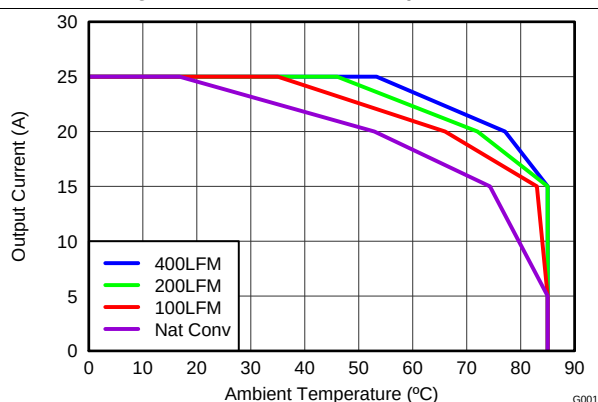
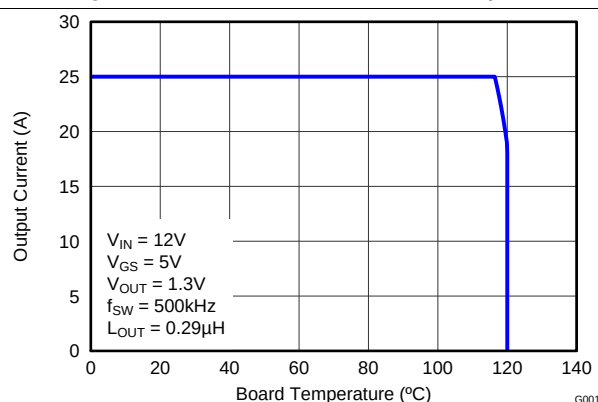

Figure 3. Safe Operating Area – PCB Horizontal Mount
Figure 4. Typical Safe Operating Area
$T_J = 125^{\circ}\text{C}$, unless stated otherwise. The Typical Power Block System Characteristic curves Figure 3 and Figure 4 are based on measurements made on a PCB design with dimensions of 4.0 inches (W) × 3.5 inches (L) × 0.062 inch (H) and 6 copper layers of 1 oz. copper thickness. See Application and Implementation for detailed explanation.
$T_J = 125^\circ\text{C}$, unless stated otherwise. The Typical Power Block System Characteristic curves Figure 3 and Figure 4 are based on measurements made on a PCB design with dimensions of 4.0 inches (W) $\times$ 3.5 inches (L) $\times$ 0.062 inch (H) and 6 copper layers of 1 oz. copper thickness. See Application and Implementation for detailed explanation.
The SOA curves in the CSD87588N data sheet provide guidance on the temperature boundaries within an operating system by incorporating the thermal resistance and system power loss. Figure 3 to Figure 4 outline the temperature and airflow conditions required for a given load current. The area under the curve dictates the safe operating area. All the curves are based on measurements made on a PCB design with dimensions of 4 inches (W) × 3.5 inches (L) × 0.062 inch (T) and 6 copper layers of 1 oz. copper thickness.